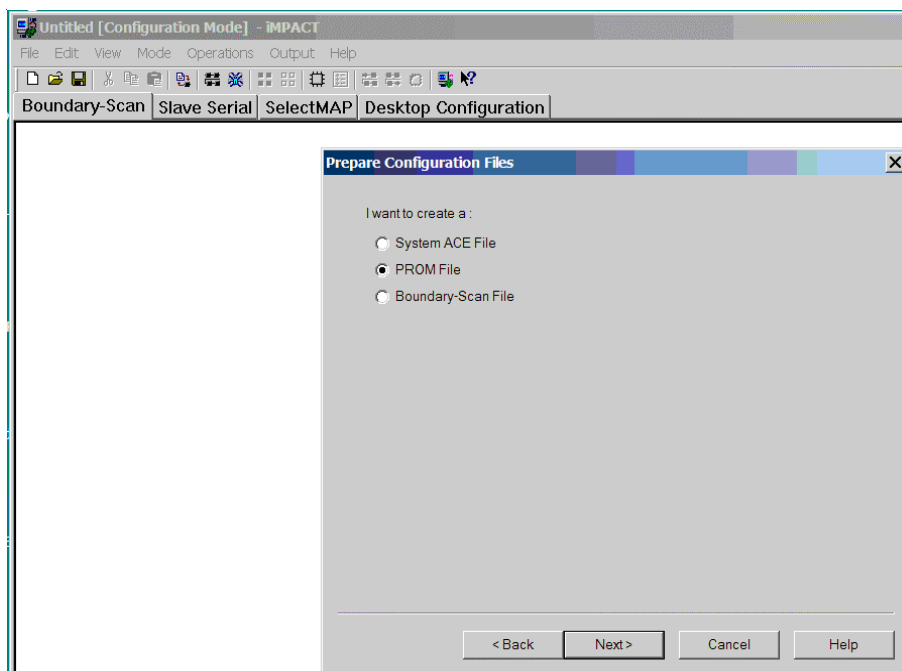

Figure B-2: Selecting PROM File
- Click on Next and select PROM File in the Prepare Configuration Files option menu shown in Figure B-2.